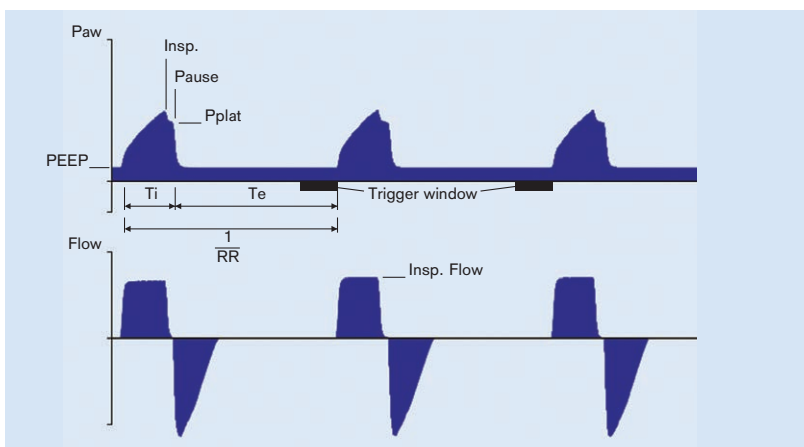

Figure 10: VC-AC
- backup frequency (Figure 10)